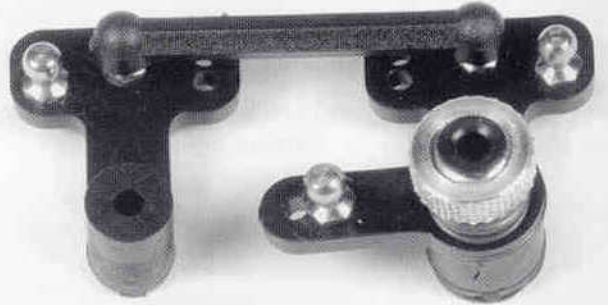

**Fig. 32**
□ **Figs. 32 & 33** In bag #7-2 you will find one #6265 molded drag link and two #7253 2.62" turnbuckles. From bag #6-14 remove four #6274 plastic ball end cups. Thread the ball cups onto the two turnbuckles to the dimension shown below. **THESE DIMENSIONS ARE TO THE CENTER OF THE BALL CUP, NOT TO THE END OF EACH BALL CUP.** The cups should face the same direction.